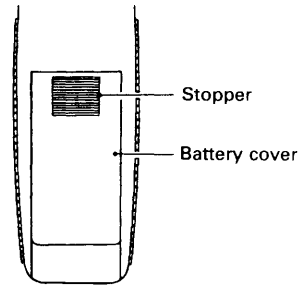

Fig. 3
- 1-1 Detach the battery cover on the rear side of the unit by strongly depressing its stopper and pulling it towards you as shown in Fig. 3.